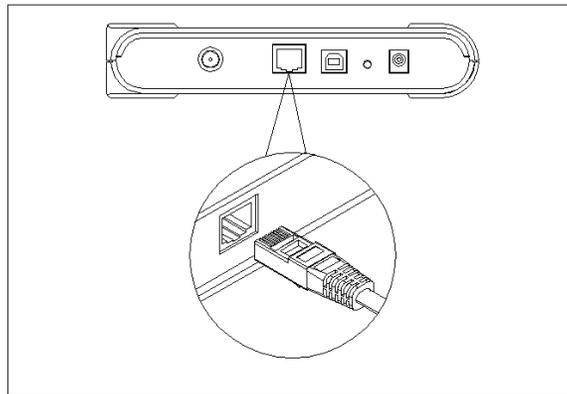

Figure 3b. Connecting the Ethernet Cable
- A) To connect your computer to the cable modem using the USB port, connect the USB cable to the cable modem by inserting the square end of an USB cable into the USB port of the cable modem as illustrated in Figure 3b. Ensure that the connectors are locked together by listening for a snap. Insert the other end of the cable into the USB port on your computer.
3. Connect one end of the RJ45 connector to the modem (see Figure 3b.) and the other end to your computer's Ethernet port.